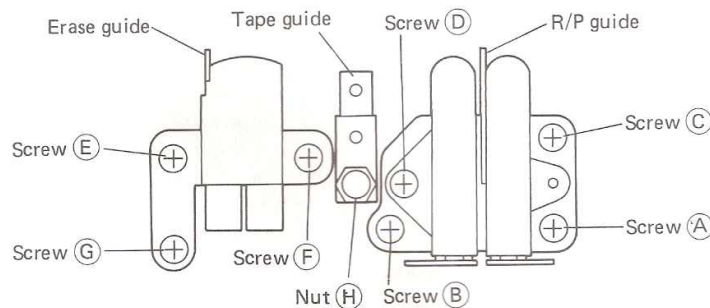

Fig. 4-2
CAUTION 1: Upon replacement of the record/repro head and/or the erase head, loosely tighten screws (A) – (G) (Fig. 4-2) then turn them one half back, before starting to perform the following steps. In addition, the procedures require the following materials:
注意. 1. 録・再ヘッド及び消去ヘッドを交換したときには図4-2のネジ(A)～(G)を軽く締め切って、その位置からそれぞれのネジを1.5回転緩めた状態で調整を始めること。又、この調整を行う為には次の治具が必要です。
7. Turn in and out the height adjustment screw C (Fig. 4-2) until jig B touches the tape guide lower flange.